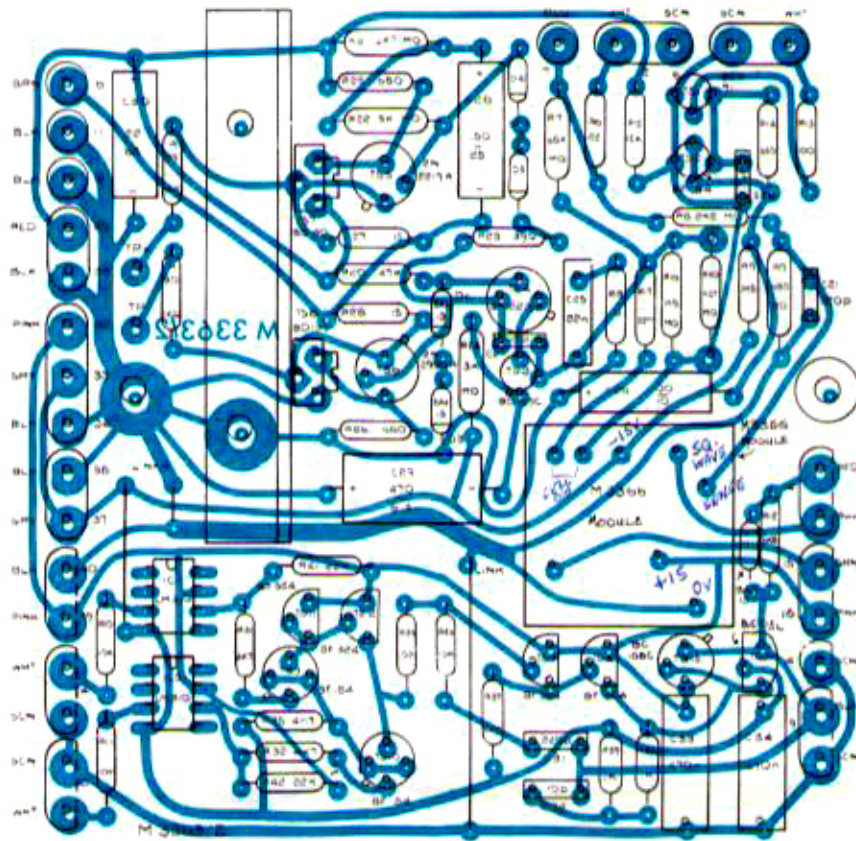

Fig. 7b Oscillator amplifier and limiter.
- Fig. 7b Oscillator amplifier and limiter. Component layout. Module M3363/4